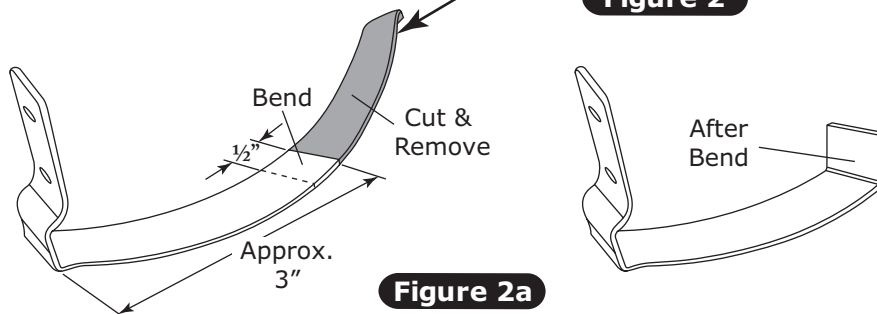

Figure 2a
9. Modify passenger side glove box door arm as shown in Figure 2a, below.